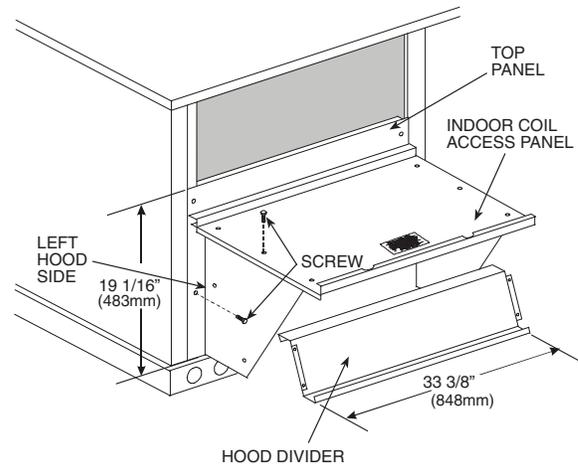

Fig. 11 — Economizer Hood Construction
2. Swing out indoor coil access panel and insert the hood sides under the panel (hood top). Use the screws provided to attach the hood sides to the hood top. Use screws provided to attach the hood sides to the unit. See Fig. 11.
4. Insert the hood divider between the hood sides. See Fig. 11 and 12. Secure hood divider with 2 screws on each hood side. The hood divider is also used as the bottom filter rack for the aluminum filter.